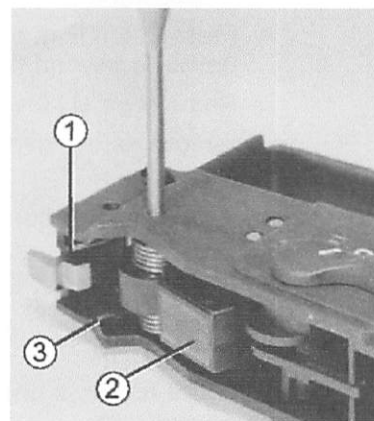

Fig. 54 Replace hammer and/or hammer springs
- ⇒ Remove hammer (Fig. 54/2) and hammer springs (Fig. 54/1 and 3) towards the top.